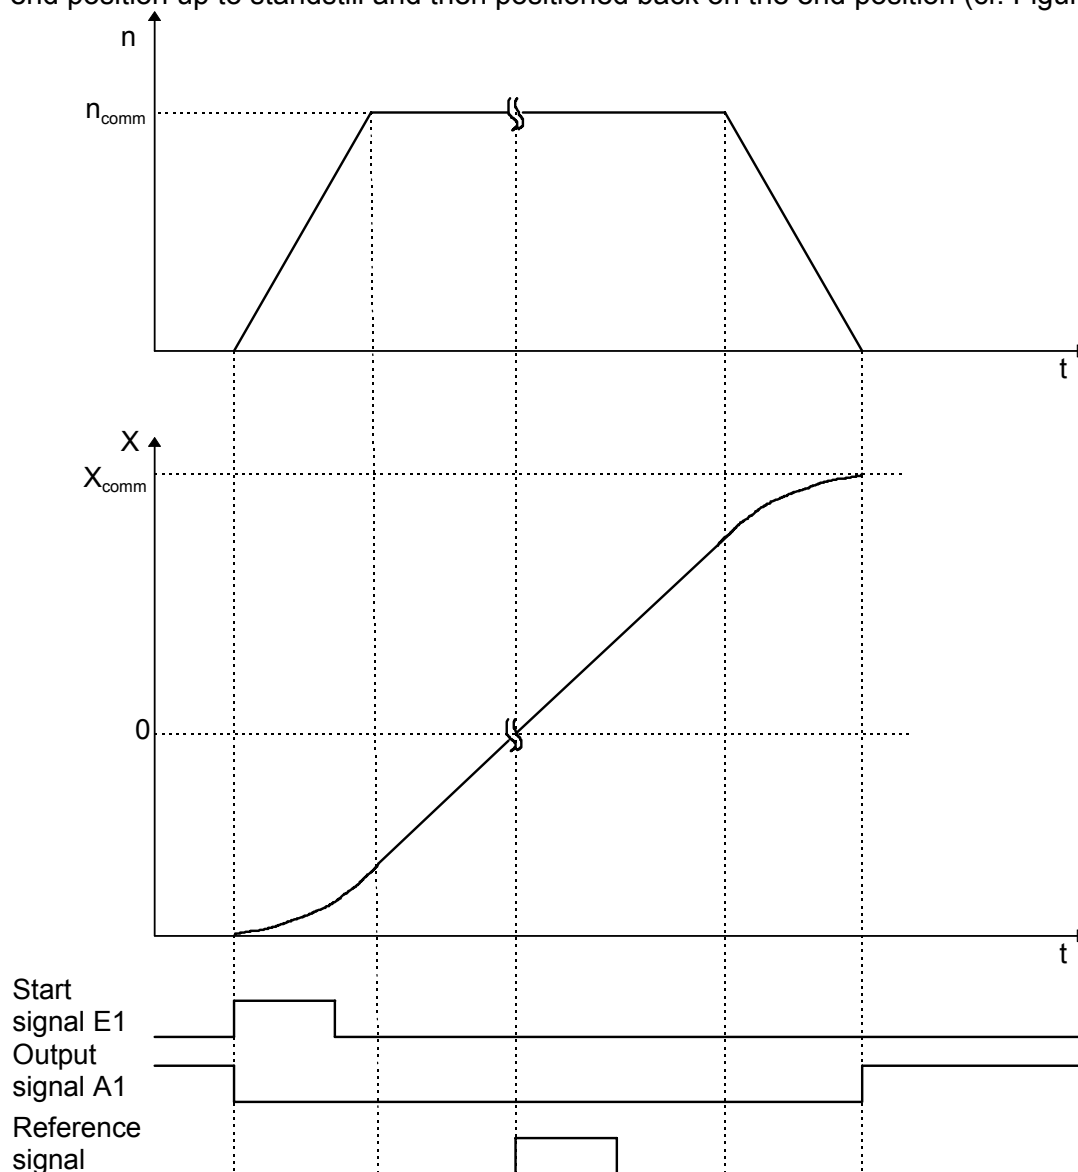
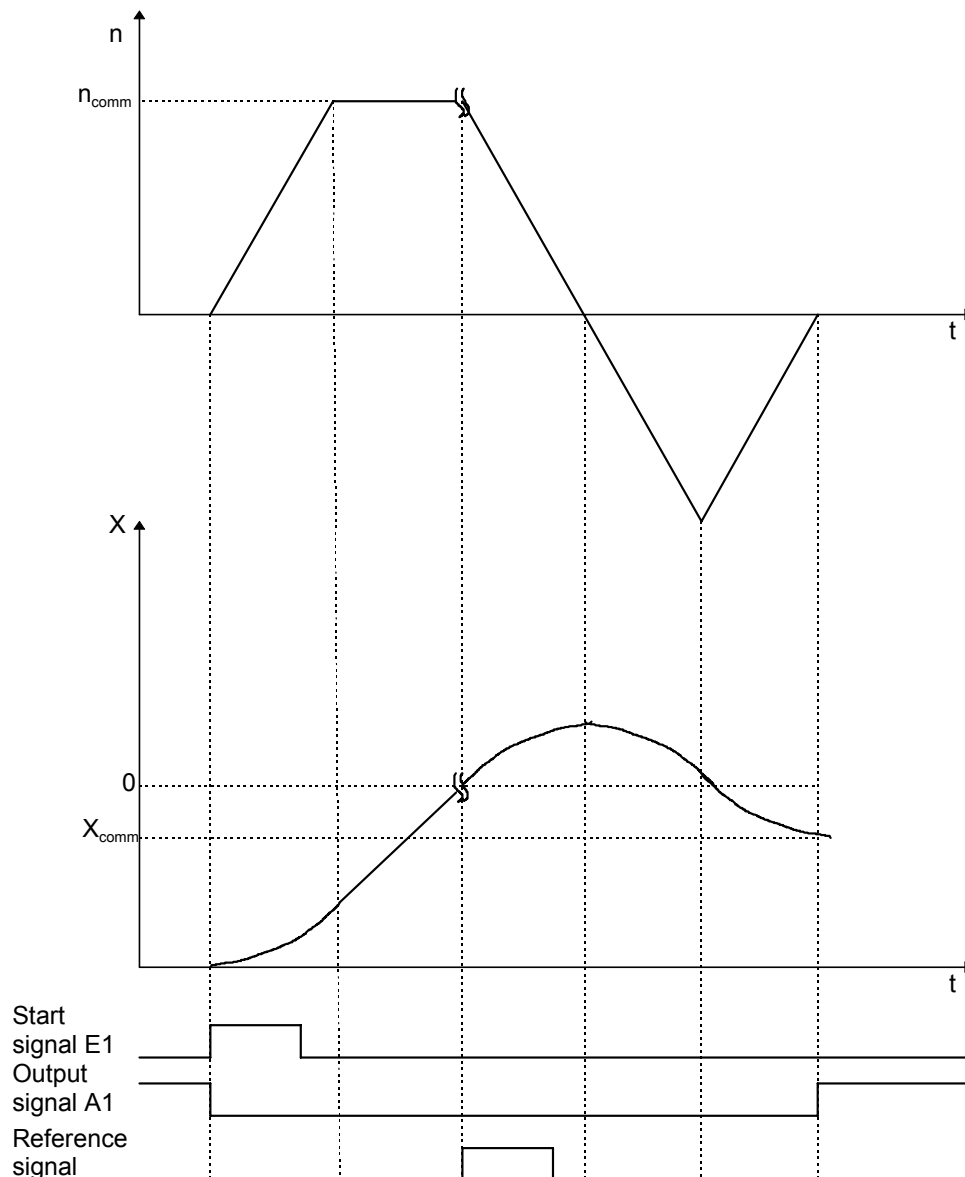
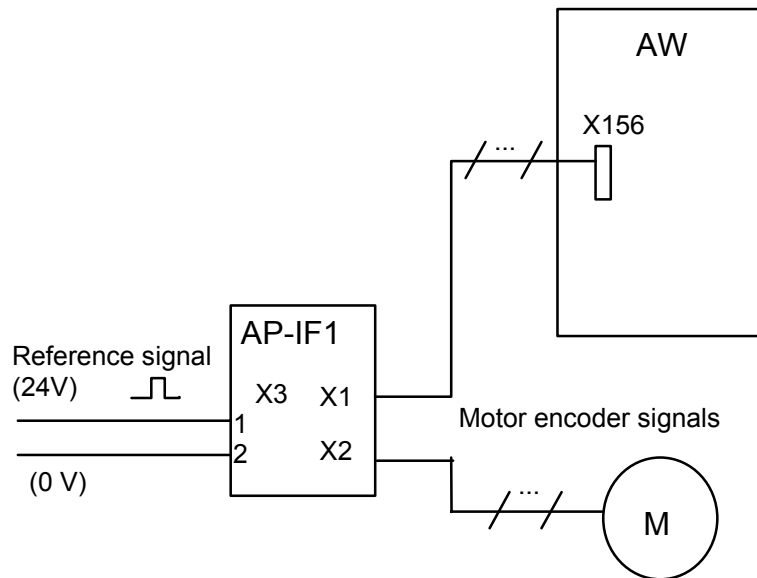

Figure 45: Course of "Substitutional positioning" without direction reversal
Figure 46: Course of "Substitutional positioning" with direction reversal
Figure 47: Connection of the reference signal to an AW
In the "**Substitutional positioning**" operating mode a type of homing cycle is performed for a drive according to the following Figure 45 and Figure 46. In this case the drive is initially accelerated to a defined speed n_{comm} . The approach direction is defined by the sign of the speed parameter. After running over the reference signal, the position feedback value system of the drive is zeroed and the drive is positioned at a defined position command value. The reference sign to be processed must be fed into the inverter module as zero pulse (cf. Figure 47). If the distance defined as position command value is either shorter than the distance resulting from the braking ramp or opposite to the current direction of travel, then a distinction is made between two versions (cf. Section 3.12.3). Either the drive can be stopped at the defined end position without observation of the brake ramp or it is driven through the end position up to standstill and then positioned back on the end position (cf. Figure 46).
- The reference signal must be fed into the inverter module (AW) according to Figure 47.